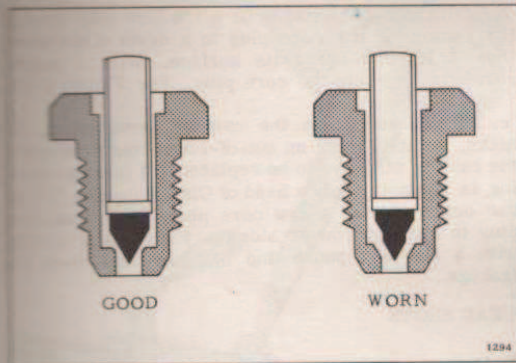

Figure 3-7. Inlet Needle Valve Seat Wear
d. Check the needle valve seat with a magnifying glass; if seat is nicked, scratched, or worn out-of-round, it will not give satisfactory service. The valve seat and needle are a matched set; if either is worn, both parts must be replaced. Use a new gasket when reinstalling the needle seat. See Figure 3-7.